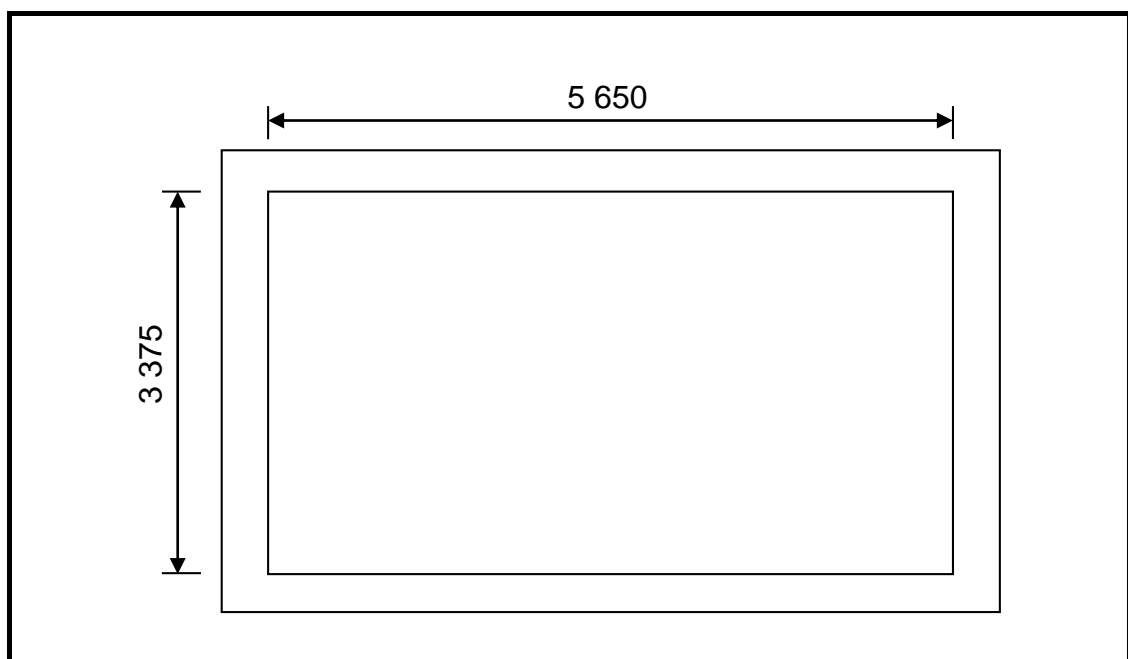

FIGURE 6.9
- 6.9 FIGURE 6.9 shows the inside measurements of the foundation strips for a storeroom.